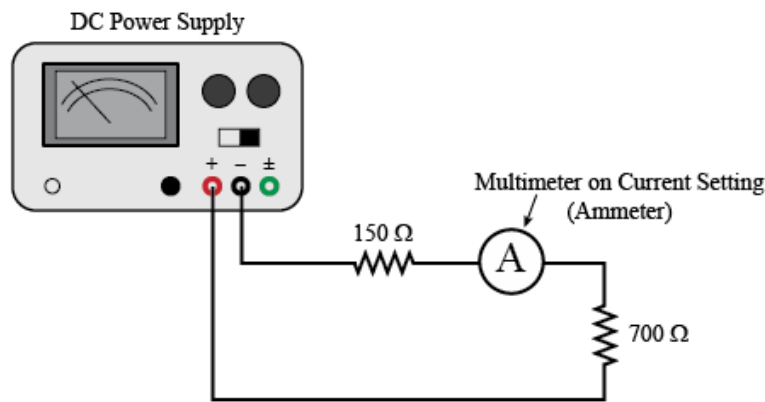

Figure 8
- 6 With the power supply voltage set to zero, connect the multimeter in series with the resistors as shown in Figure 8. You will now measure the current between various junctions. Be sure to set the multimeter to the 200 mA DC current range and connect the multimeter leads to the correct jacks.